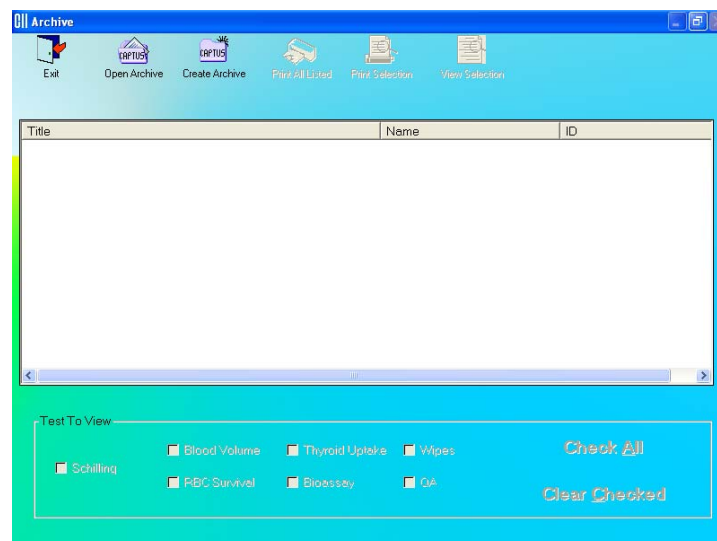

Figure 14-1 Main Archive Screen
To access the Archive module, click the **Archive** button or press *Alt+A* on the CAPTUS 3000 Main screen. Figure 14-1 Main Archive Screen will appear.
3. Click the  button or press *Alt+S* to create the archive or click the  button to return to Figure 14-1 Main Archive Screen without creating an archive. Once an archive has been created, all the data collected in all the test modules will be saved
under the given file name and folder. After returning to Figure 14-1 Main Archive Screen, archived data will appear in the box.
3. To return to Figure 14-1 Main Archive Screen without opening any file, click the  button or press the *Esc* key.
7. To return to Figure 14-1 Main Archive Screen, click the **Exit** button or press *Alt+E*.
- For a quick print of the selection without viewing the detailed report on the screen, click the  icon at the top of Figure 14-1 Main Archive Screen.